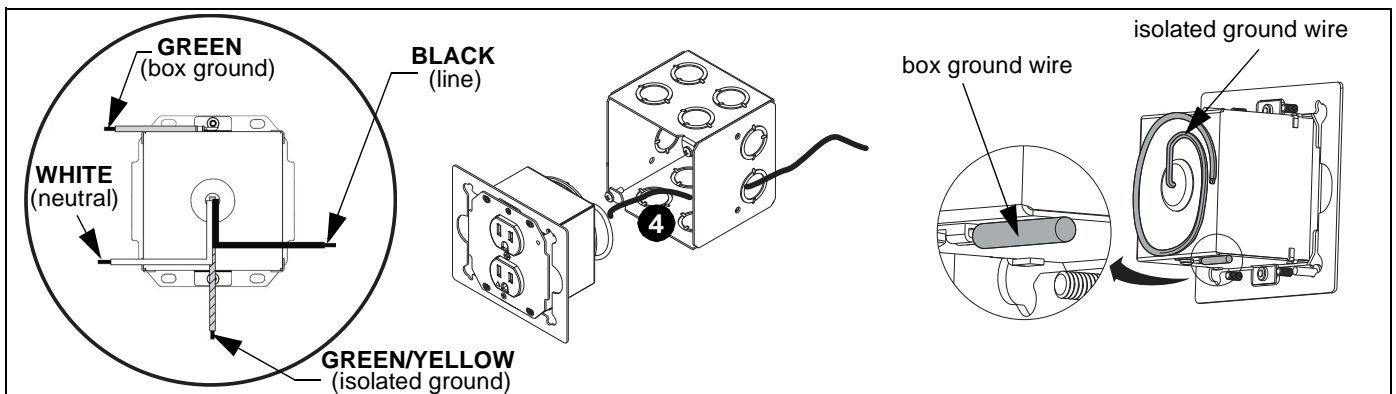

Figure 3
4. Wire the EGX-SF2 outlet box as required. Refer to tables to the right for input and output specifications. (See Figure 3)
7. Connect wires to EGX-SF2 referring to tables on page 3 for input and output specifications. (See Figure 3)